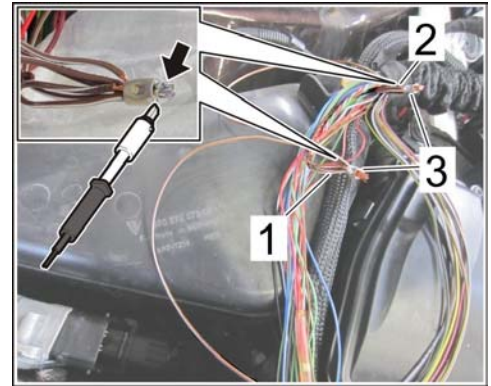

Figure 9
- 9.2 At both splice connections ⇒ *Figure 9 -1 and 2-*, solder the strands that are sticking out of both BDM clips ⇒ *Figure 9 -3-* using the soldering tin contained in the repair kit ⇒ *Figure 9 -arrow-*.